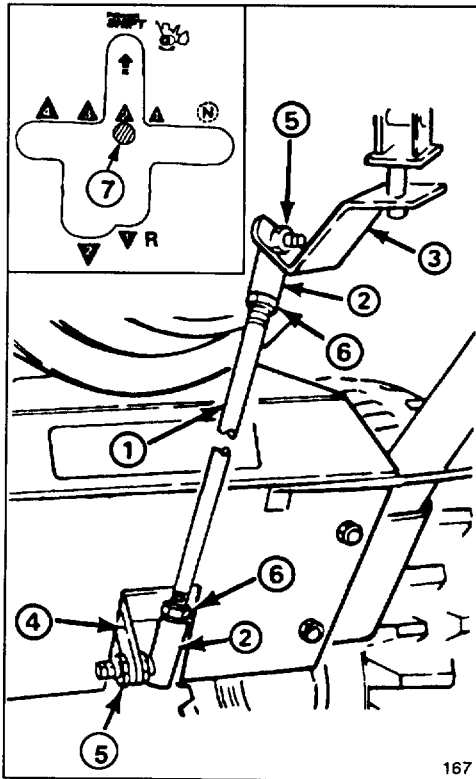

Figure 35
7. Chain adjustment will affect gear-shift lever alignment. If gear shift lever is not aligned with Power Shift slot in control panel (Fig. 35, inset), shift rod length must be adjusted as follows: